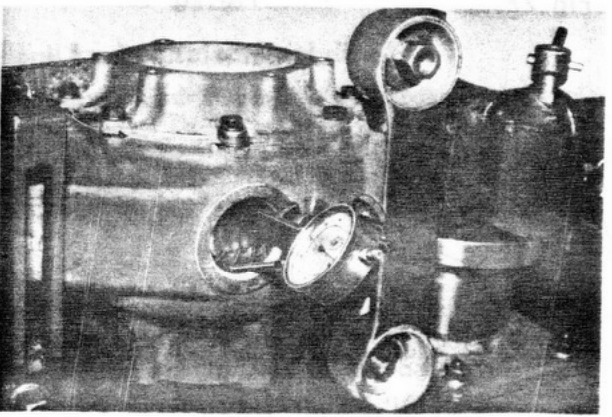

Fig. 24
13. Screw in castellated nut on crown-wheel side until play at the marked point amounts to .005" (0.12 m/m). Tools needed: - micrometer clock gauge with holder WK 144, adjusting nut socket spanner WK 139 (Fig. 24).